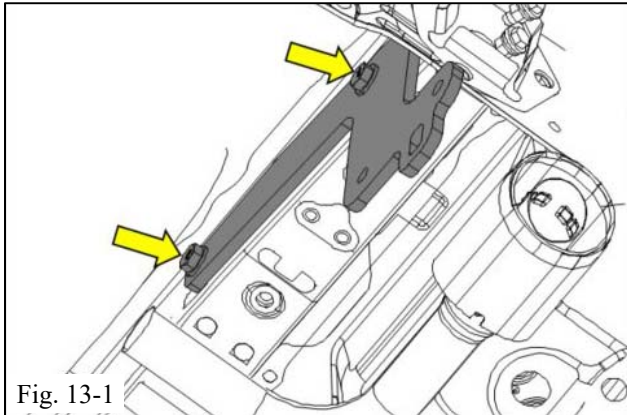

Fig. 13-1
- (a) Fit the (4) M12x30 bolts (Item 4 in the hardware bag table), with (4) washers (Item 2 in the hardware bag table) (Fig. 13-1).
! NOTE: Fig. 13-1 shows the right-hand inboard side of the chassis rail.